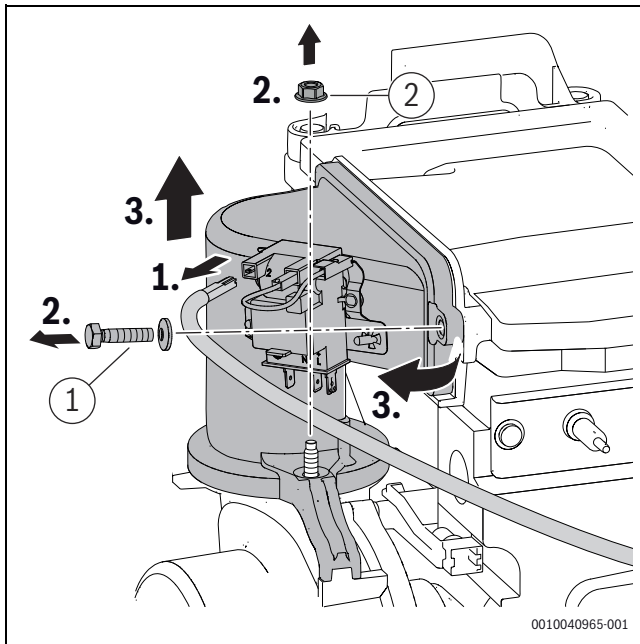

Fig. 50 Removing the mixing device
- Tighten the screw and nut ([1] and [2], Fig. 50) on the mixing device with 5.5+0.5 Nm.